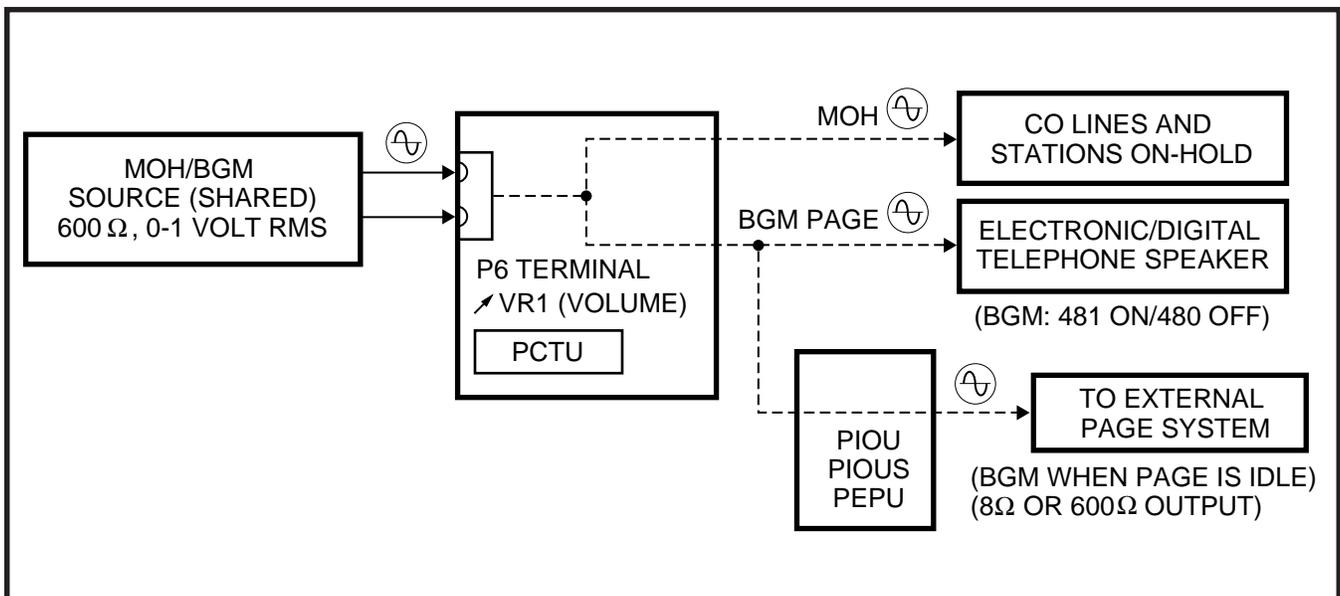

FIGURE 8-4
- 1) Configuration A—one music source: This configuration allows BGM and MOH to share the same music source. (See Figure 8-4.) With this configuration, the MOH/BGM music source is connected to the **P6** terminal on the PCTU or PCTUS PCB. The music source is sent to CO lines/stations on hold, to electronic/digital telephone speakers, and to the external page system via either the PIOU, PIOUS, or PEPU optional PCB.